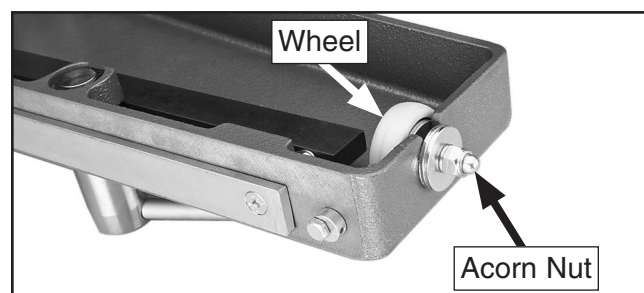

Figure 166. Rip fence base roller controls.
- If far end of fence base is too low, loosen fence lock and pivot rip fence base upwards to access wheel underneath (see **Figure 166**). Loosen acorn nut, adjust wheel position, tighten acorn nut, then place rip fence base back on table.